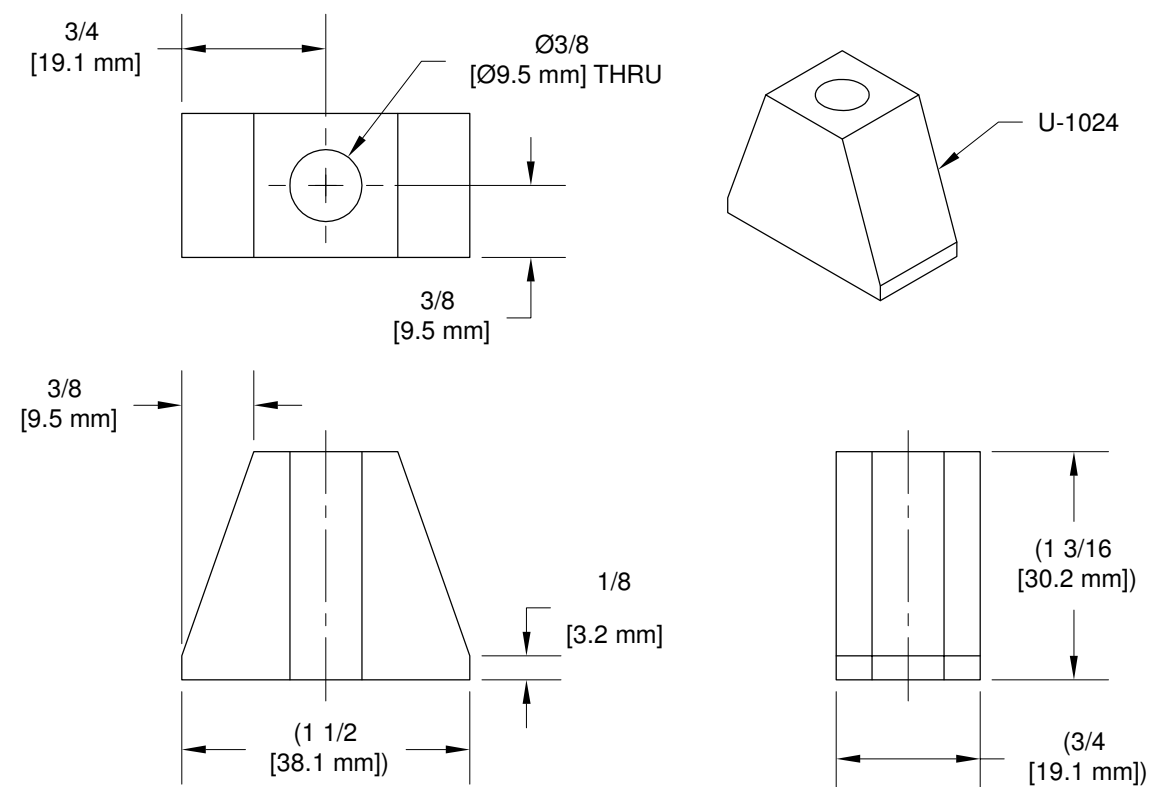

FIGURE 4: FABRICATE STANDOFF
Step 5: Fabricate two U-1024 Standoffs from 3/4 x 1 1/2 x 1 3/16 2024-T351 aluminum block as provided. Cut to the shape depicted and drill as shown in Figure 4.